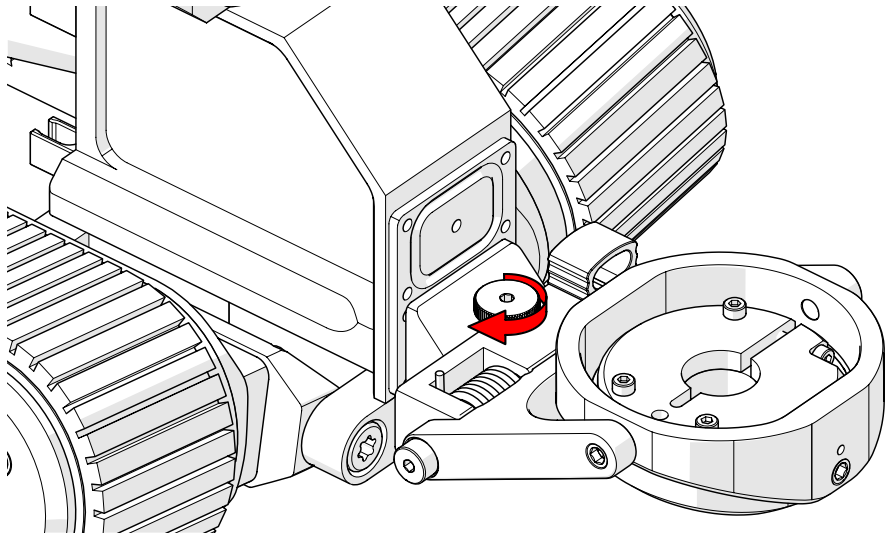

Fig. 71 - Tighten the corrosion thickness probe holder knob
2. Centre the corrosion thickness probe holder and tighten the corrosion thickness probe holder knob (Fig. 71).